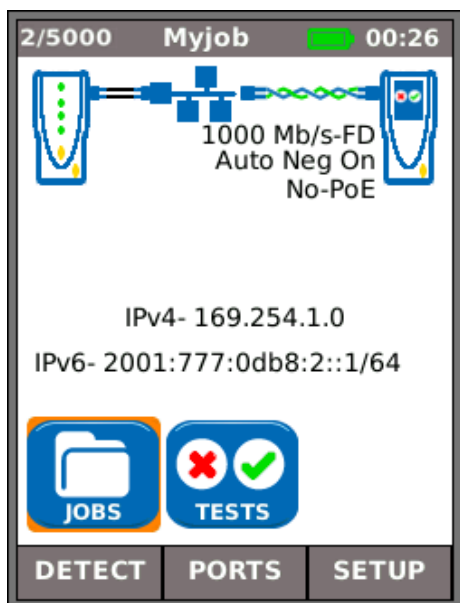

Fig 10
(3) When both the Near-End Unit and Remote Unit are connected to an active network, using copper or fiber cables, press the soft key DETECT (F1) to display all options available (Fig 10). IP tests and performance tests can be run. For a full description of these options see - *Tests menu description - Ethernet mode, page 28*.